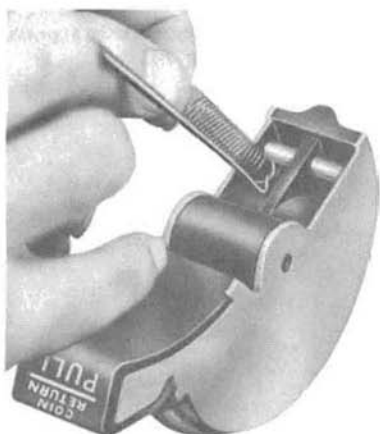

Fig. 49—Attaching Spring to Pull Bucket
- (1) Use TP-75503 spring hook to assemble two new springs on pull bucket crossbar (Fig. 49).